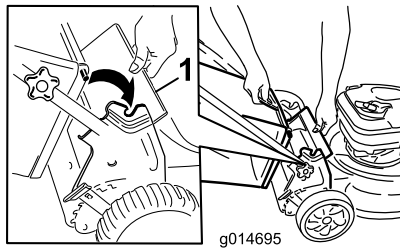

Figure 13
1. Lift up the rear deflector (Figure 13).
2. Insert the grass-bag handle onto the notches on the handle brackets (Figure 13).